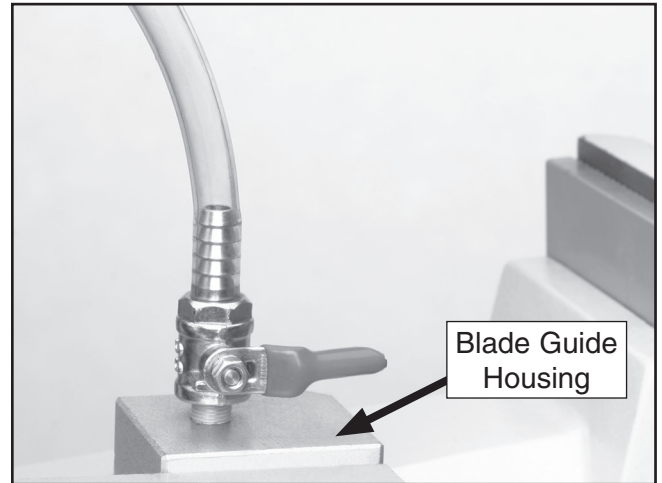

Figure 11. Cutting fluid control valve.
4. Turn the cutting fluid pump switch **ON**, and adjust the valves on the cutting fluid hoses to control the flow of cutting fluid (see **Figure 11**).